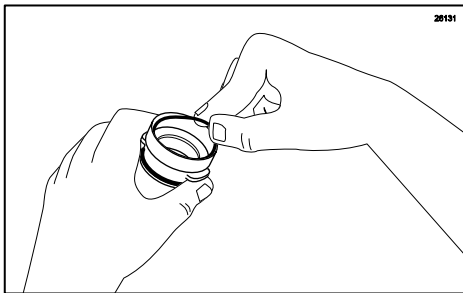

Figure 87
3. Remove the two black o-rings and white gasket from the Spout Adapter. (See Figure 87.)